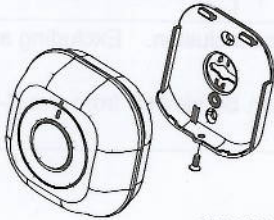

FIGURE 2
1. Undo and remove the screw from the bottom edge of the detector to detach the rear cover (FIGURE 2).